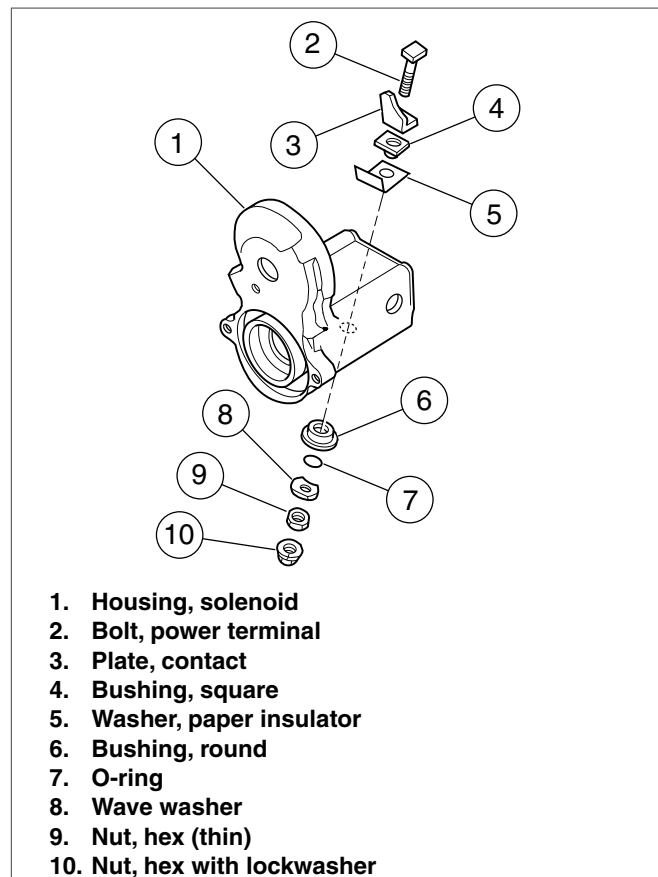

Figure 2. Power Terminal
1. See Figure 2. Remove hex nut with lockwasher (10) from copper power terminal bolt (2). Remove battery cable and save for later use.
2. Remove and discard power terminal nut (9), wave washer (8), O-ring (7) and round bushing (6).
3. Push copper bolt (2), contact plate (3) and bushing (4) out of solenoid housing (1). Discard bolt, contact plate and bushing.
4. Remove and discard paper insulator washer (5).